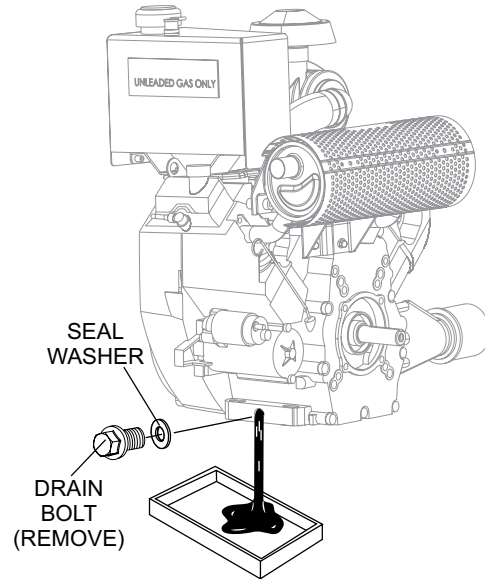

Figure 38. Draining the Engine Oil
1. Drain the engine oil when the oil is warm as shown in Figure 38.